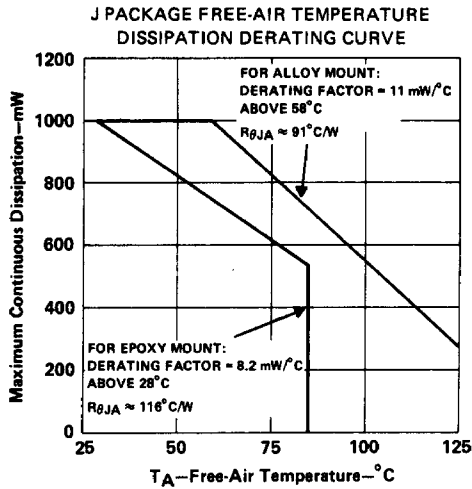

FIGURE 1
2. For operating above 25°C free-air temperature, see Dissipation Derating Curves, Figures 1 and 2. In the J package, SG1525A and SG1527A chips are alloy-mounted; SG2525A, SG2527A, SG3525A, and SG3527A chips are epoxy mounted.